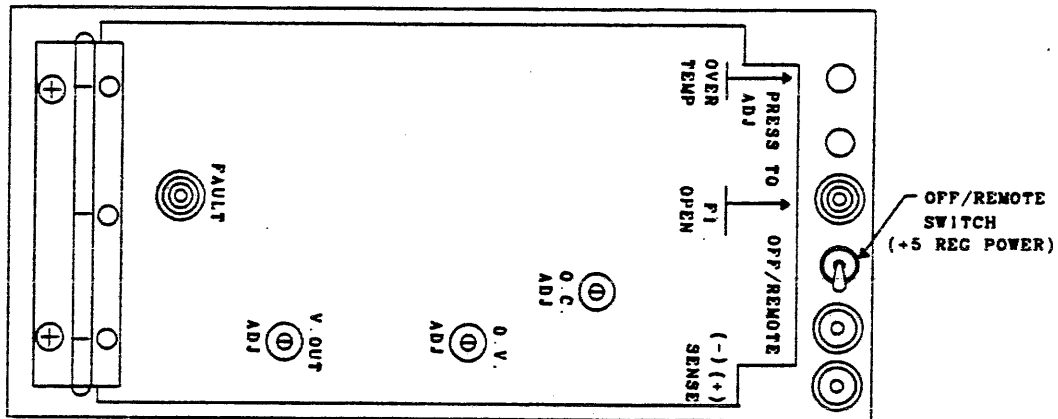

FIGURE 4-8. +5V MASTER REGULATOR AT VJ1
1. Verify that the OFF/REMOTE switch, located on the +5V Master Regulator is in the REMOTE position. See Figure 4-8.